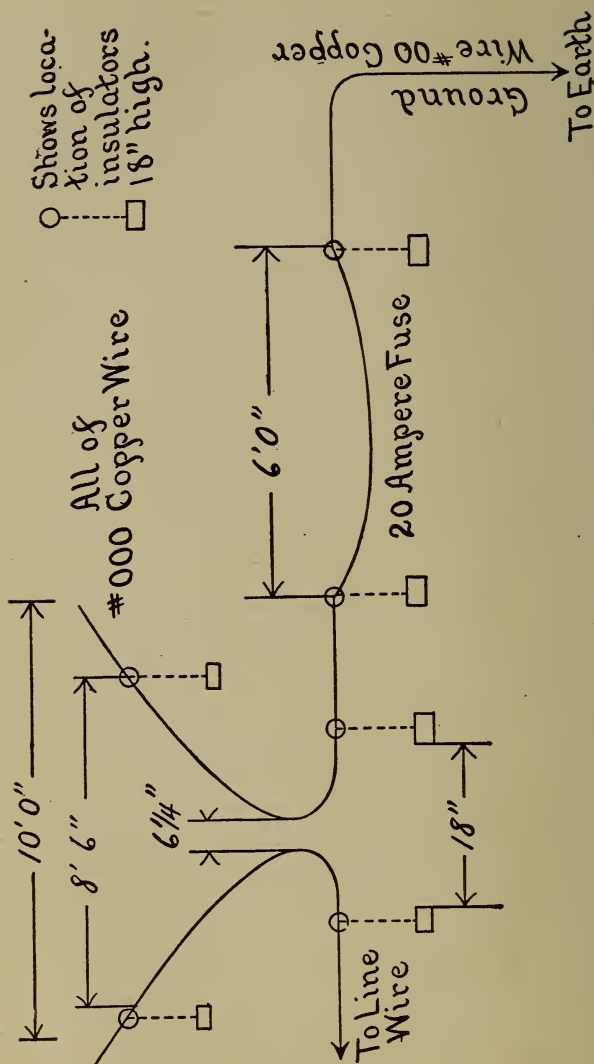

Fig. 54. Horn Lightning Arrester arranged with Fuse.
*Answer.* A horn arrester is as shown in Fig. 54. A single spark gap whose length is regulated by the pressure it is designed to withstand (say  $6\frac{1}{4}$  inches for 90000 volts) has a wide spreading pair of horns attached, the ends being perhaps twelve feet apart.